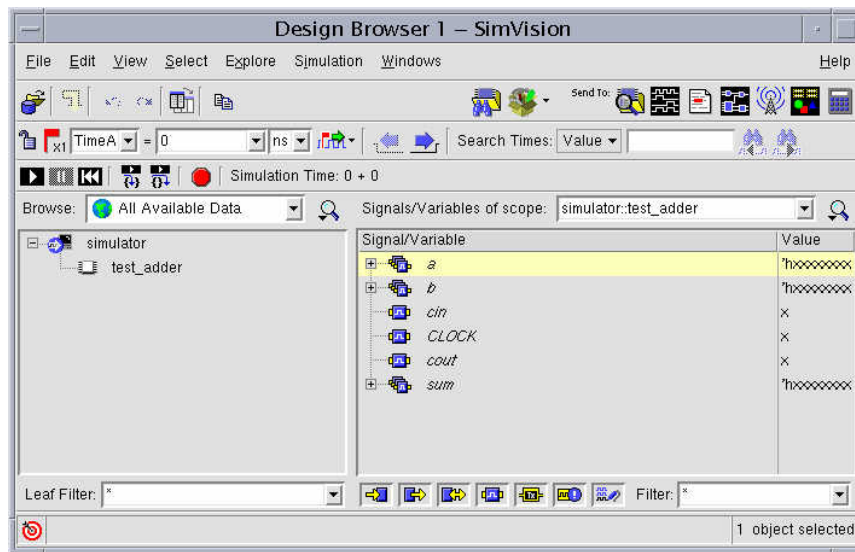

Figure 3-14 Choosing the top scope.
2. Select the **top** scope. The signal list on the right side of the window displays the signals for the *top* scope, as shown in figure 3-14. The signal list indicates the type of each signal – input, output, inout, internal signal, or transaction. User can use the **Leaf Filter** to choose signals which are intended to view.